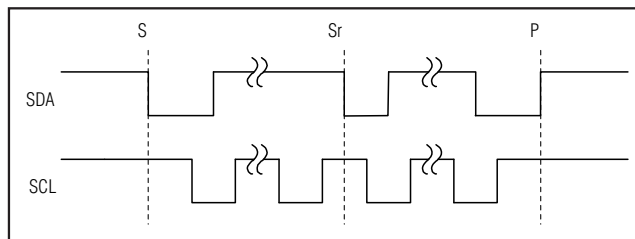

Figure 5. START and STOP Conditions
The master initiates a transmission with a START condition (S), a high-to-low transition on SDA while SCL is high. The master terminates a transmission with a STOP condition (P), a low-to-high transition on SDA while SCL is high (Figure 5). A repeated START condition (Sr) can be used in place of a STOP condition to leave the bus active and the interface mode unchanged (see the *HS Mode* section).